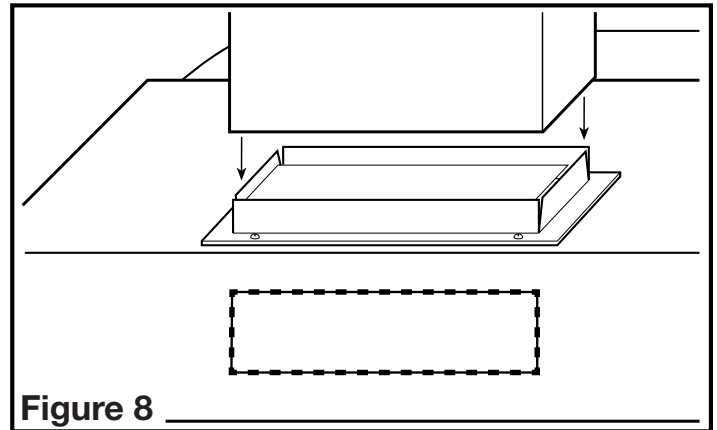

Figure 8
1. Connect the ducting to the hood's duct collar and damper. Ensure duct joints and exterior penetrations are sealed with caulk or other similar material to create an air-tight path to minimize building heat loss or gain and to reduce the potential for condensation. Place/wrap insulation around duct and/or fan in order to minimize possible condensation buildup within the duct, as well as building heat loss or gain (Figure 8).